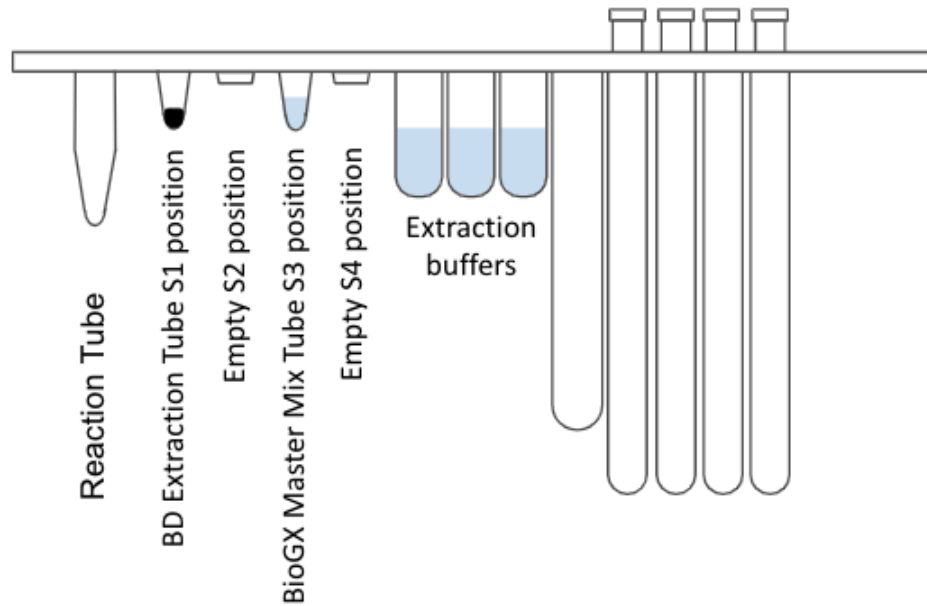

Figure 1. Diagram of BD MAX™ ExK™ 4-snap Unitized Reagent Strips.
2. Snap one BD MAX™ Extraction Tube into position 1 (Snap-1) of each Unitized Reagent Strip (Figure 1).
3. Snap one BD MAX™ empty 0.3 mL conical tube into position 3 (Snap-3) of each Unitized Reagent Strip (See Figure 1).
6. Transfer 40 µL of rehydrated Master Mix to the bottom of each empty 0.3 mL conical tube into position 3 (Snap-3) of each Unitized Reagent Strip (Figure 1).